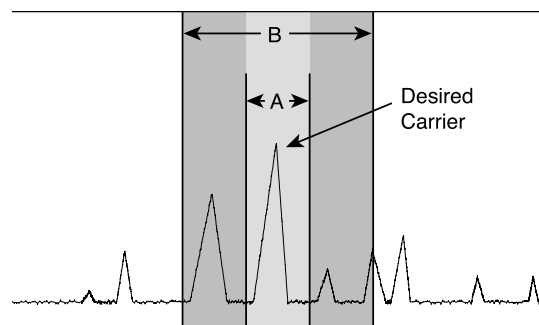

Figure 6: Desired Bandwidth
This increases the ratio between the signal and noise and greatly reduces the potential for off-frequency interference. Figure 6 illustrates how a receiver with a narrow front end bandpass opening (A) has a much better chance of receiving the incoming signal than receiver (B) with its wide front end bandpass opening.